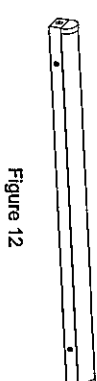

Figure 12
- Step3. Connect the wires according to the wiring instructions, adjust sensing mode as per demand, and then assemble the disassembled lamp back. (Figure 12)